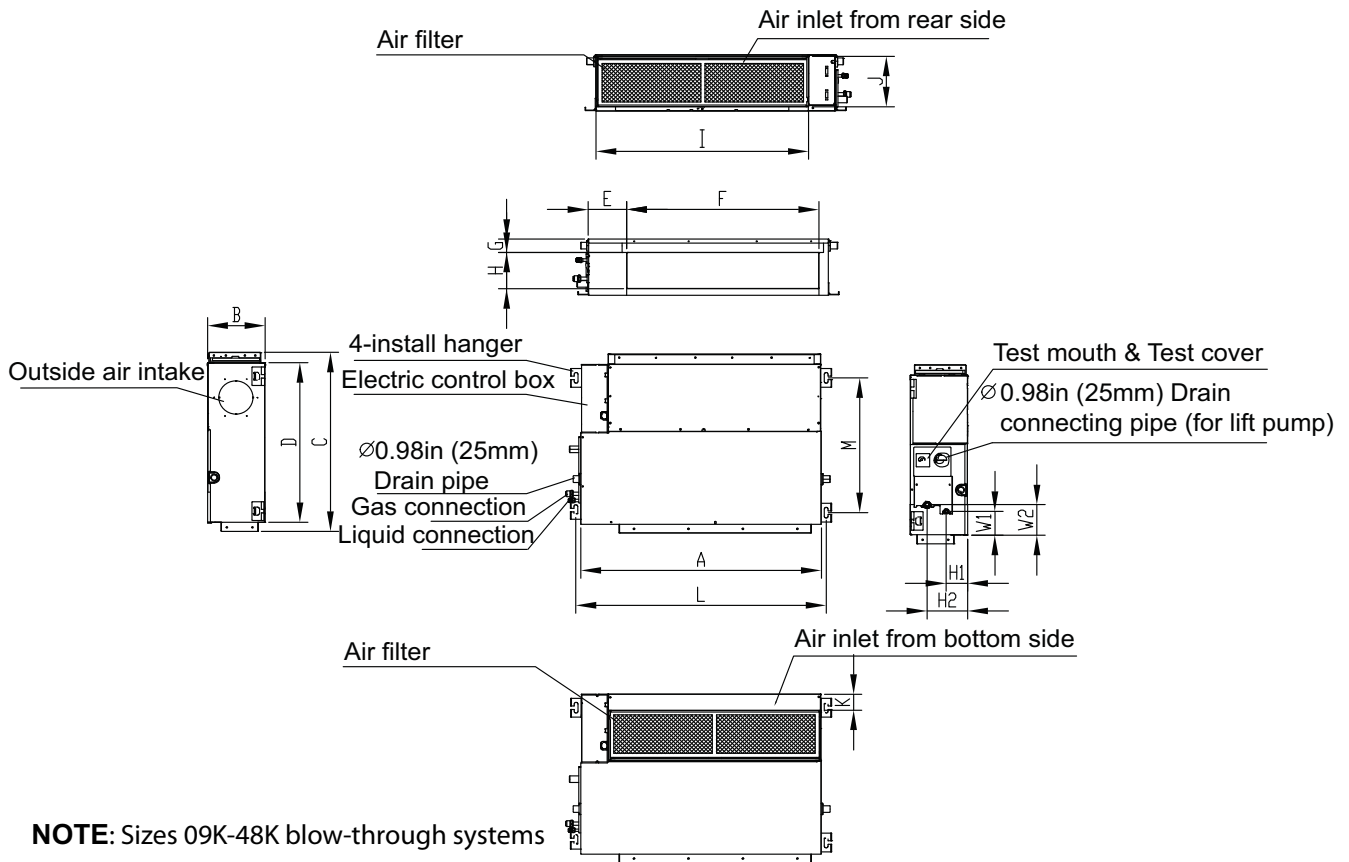

Fig. 5 — Indoor Unit Sizes 9K - 48K
**Clearance** - Provide adequate clearance for airflow (see figures 5 and 6).